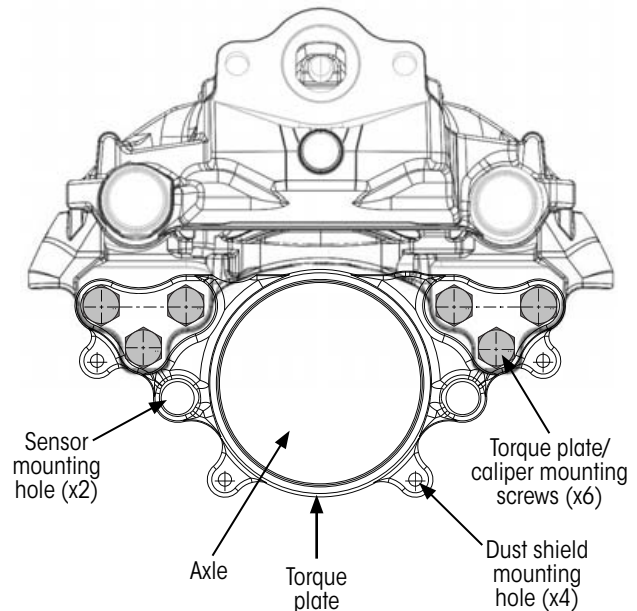

Figure 42: Disc Brake mounted to torque plate.
4. **Remove** torque plate mounting screws and discard. (Figure 42).
4. **Tighten** the torque plate mounting screws (Figure 42 on page 21) according to specifications in T71004 ADB Rotor (U-shape style) and Caliper Mounting or APPENDIX A: WRENCH SIZE AND TIGHTENING TORQUES on page 37, item III.